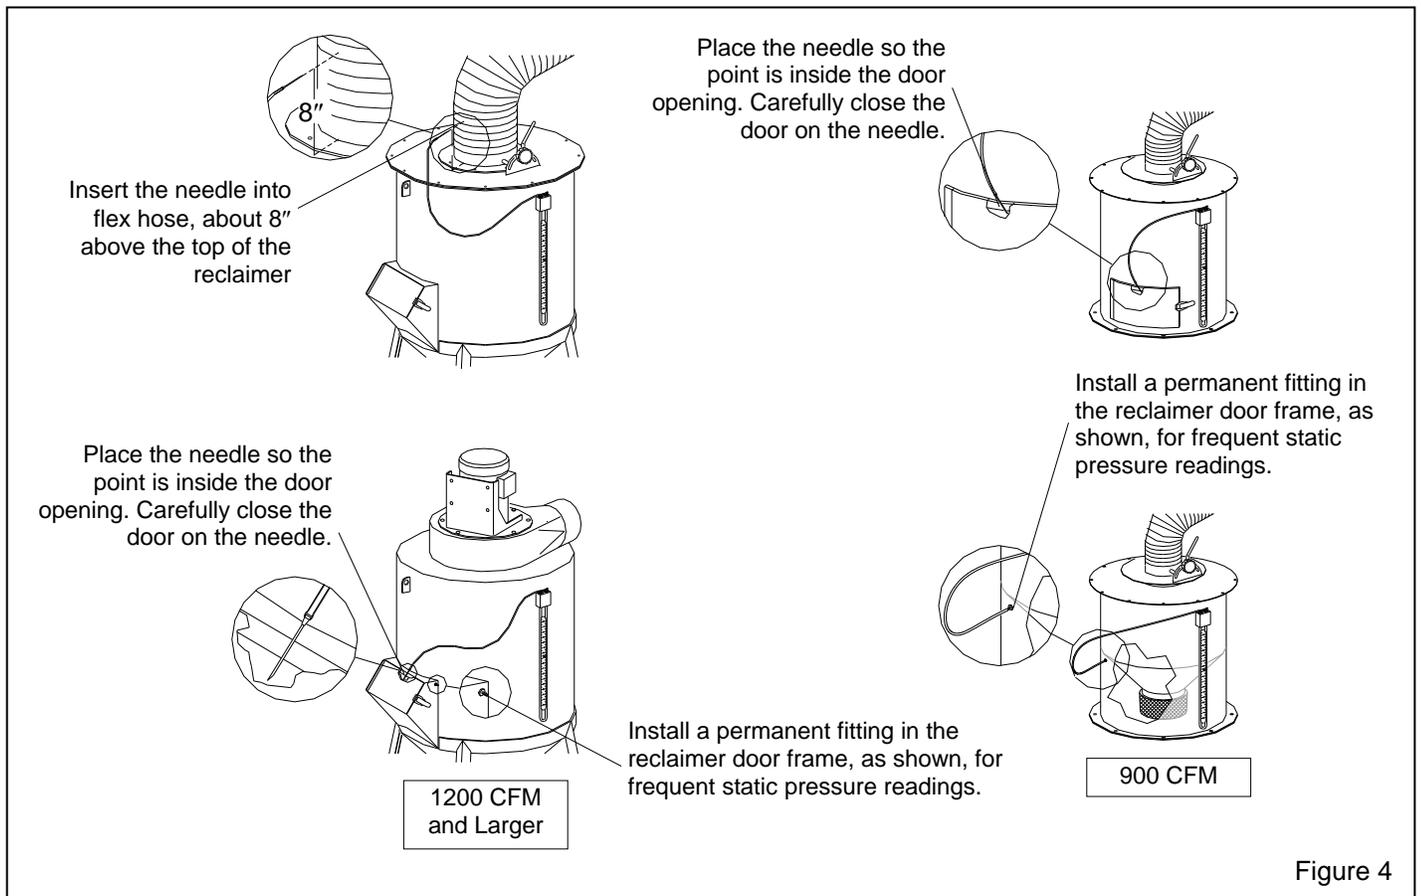

Figure 4
**4.1.1** The illustration in Figure 4 shows the manometer set-up for taking periodic and frequent static pressure readings on pull-thru and push-thru reclaimers. A permanent fitting can be installed in the reclaimer as shown, for frequent static pressure readings.
**4.1.8** Needle placement: Ref. Figure 4.